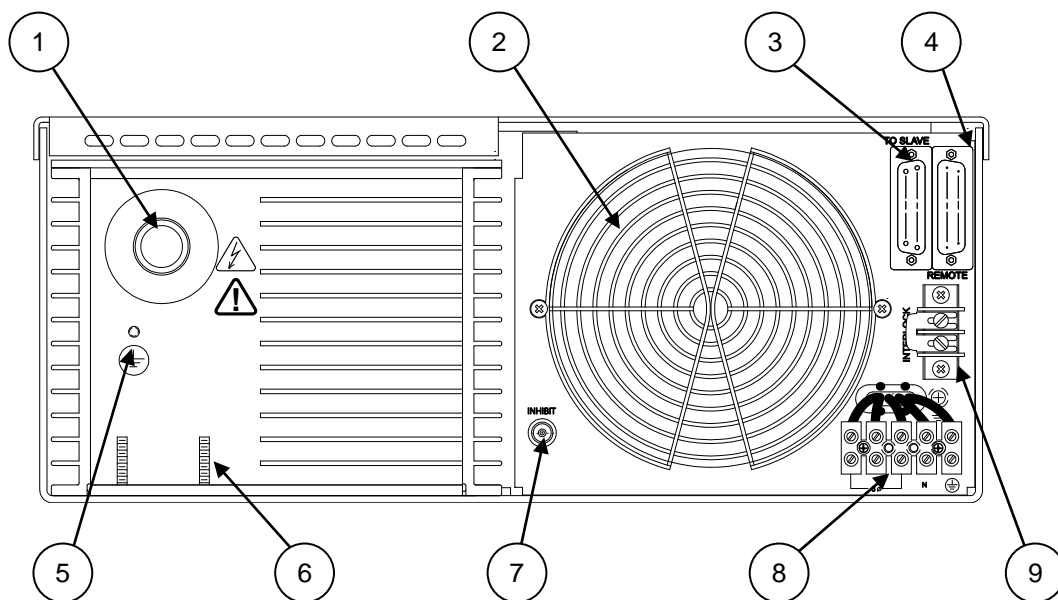
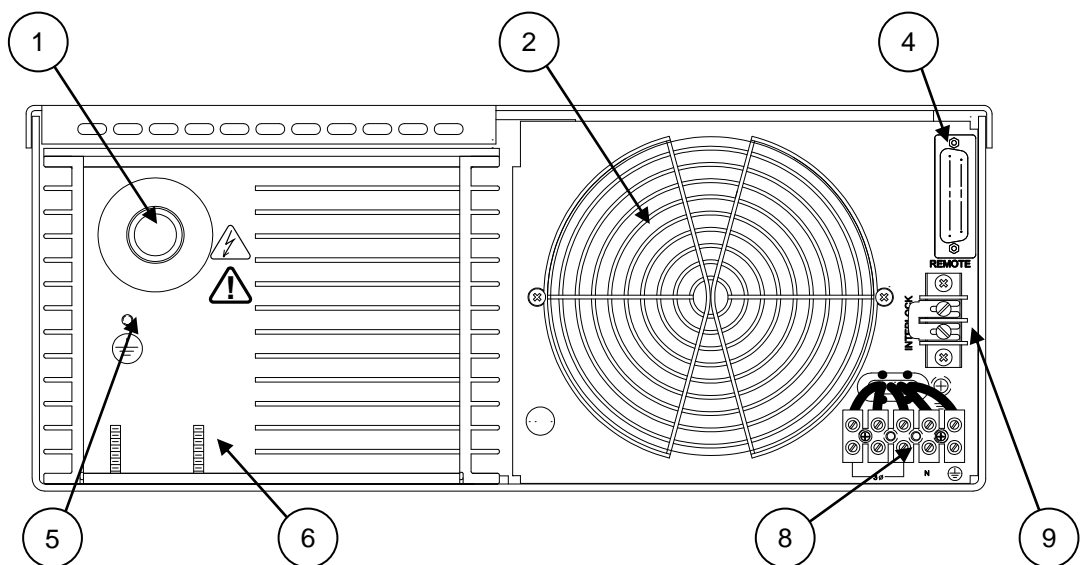
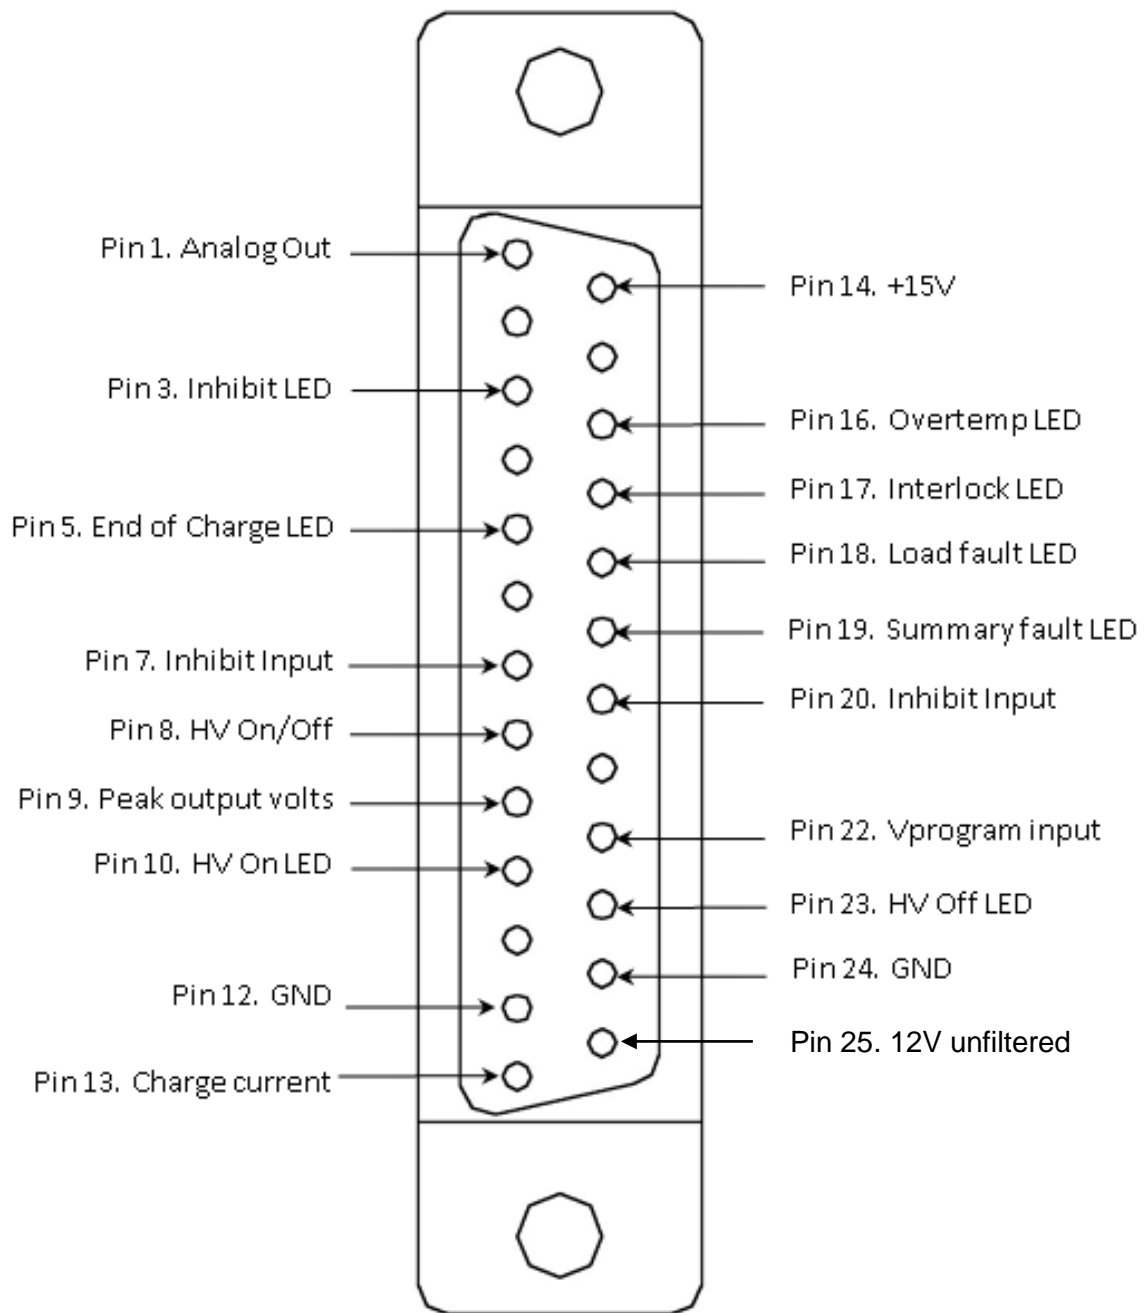

Figure 5 402L Rear Panel Connections
Figure 6 402S Rear Panel
Figure 7 Remote Interface Connector and Signals
All of the interconnect and HV connections for the 402L are located on the power supply rear panel. Figure 5 shows the rear panel layout and location of the various connectors.
*The numbers in Figure 6 refer to Table 5.*
Figure 7 shows a summary of the remote control signals on the connector labeled 4 in Figure 5 and Figure 6. The connector is a 25-pin sub D-type receptacle (female).